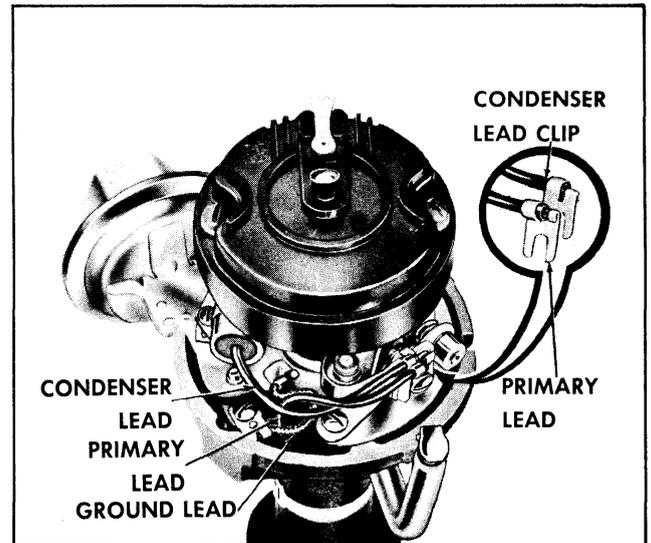

Fig. 13-40 Distributor Wiring
3. Upon reassembly, install the primary leads as shown in Fig. 13-40. Leads must be properly located to eliminate lead interference between cap, weight base, and breaker advance plate.